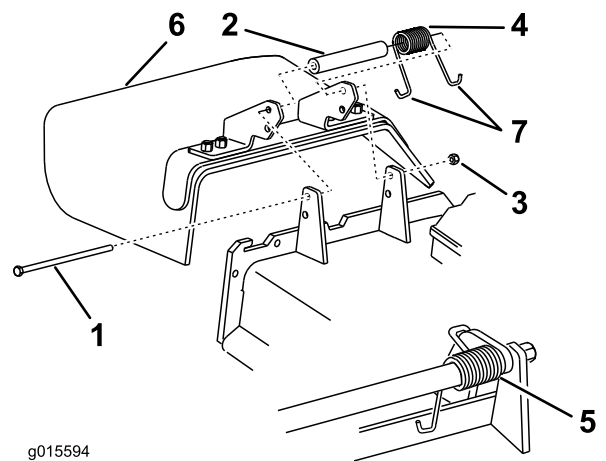

Figure 86
1. Remove the locknut, bolt, spring, and spacer holding the deflector to the pivot brackets (Figure 86).
2. Remove the damaged or worn grass deflector (Figure 86).
Note: Make sure that 1 J-hook end of the spring is installed behind the deck edge before installing the bolt as shown in Figure 86.
6. Place 1 J-hook end of the spring around the grass deflector (Figure 86).